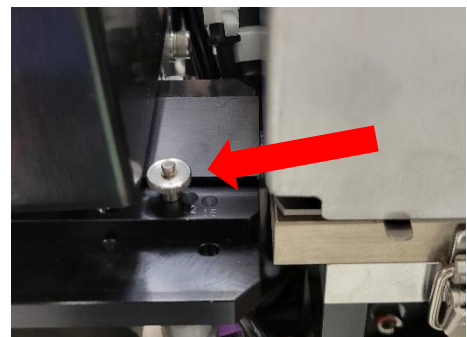

Figure 10
13. Remove the pin that is blocking the carrier tape track positioned in slot 8 as shown in Figure 10.